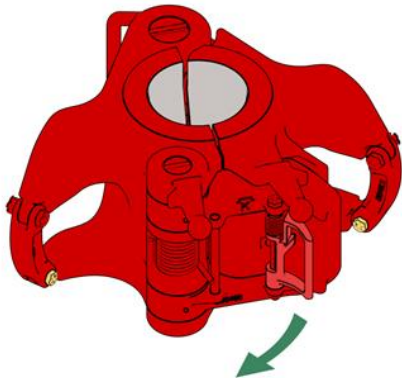

Figure 3
- Lift the bottom of the link blocks and hook the small end of the links through the link blocks and link arms. (See figure 3)